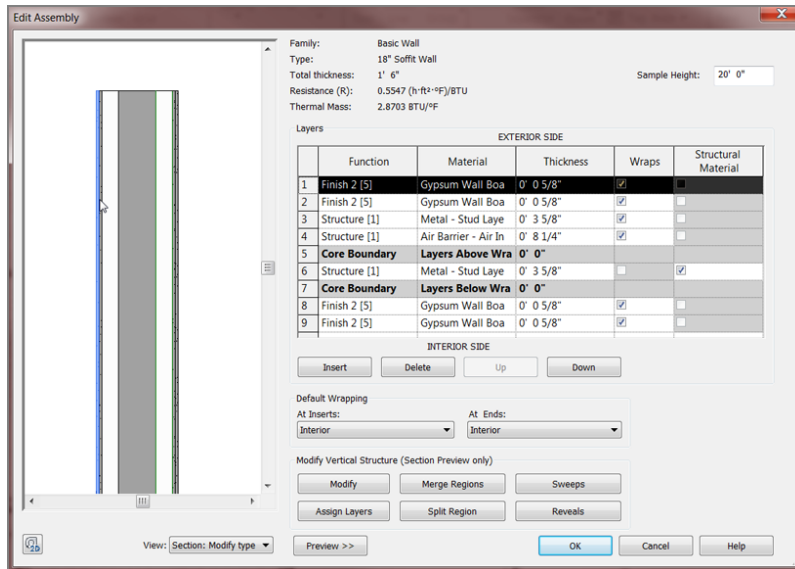

FIGURE 16.22: The wall layers
15. Set Thickness to 3 5/8" (92mm) (see Figure 16.22).